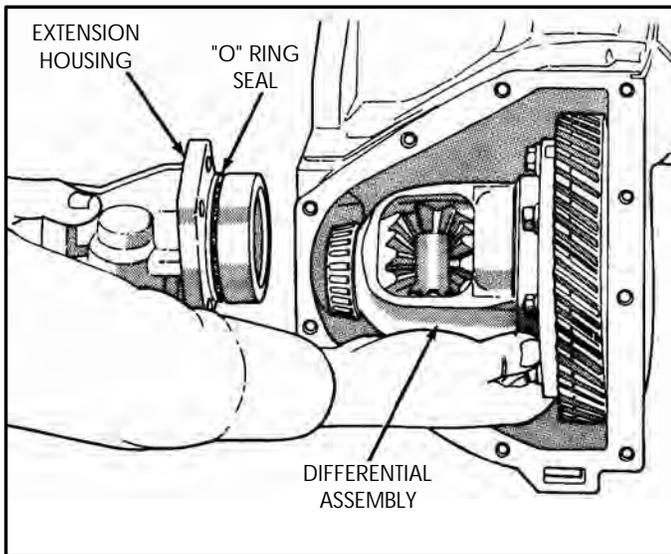

Figure 181
12. After turning torque is correct on output shaft, reinstall the differential assembly, as shown in Figure 181.
13. Install *new* "O" ring on extension housing, as shown in Figure 181, and lube with a small amount of Trans-Jel®.